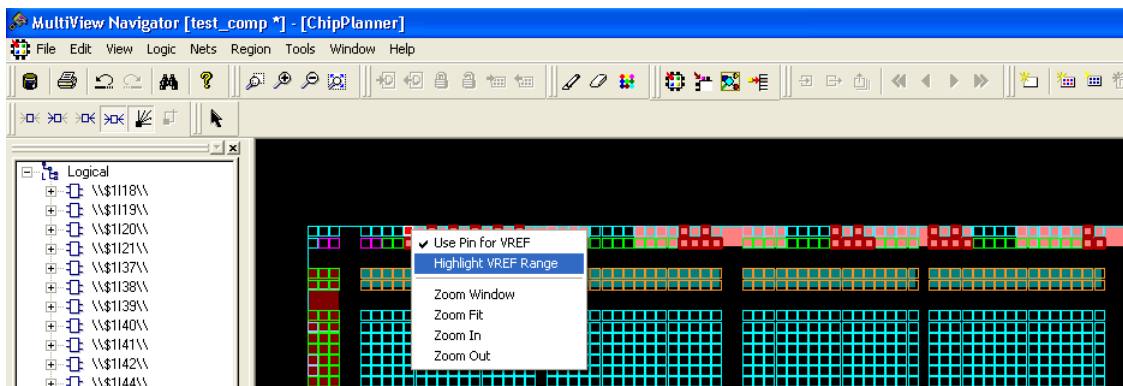

Figure 9-14 • VREF Range
- Right-click and then choose **Highlight VREF range**. All the pins covered by that VREF pin will be highlighted (Figure 9-14).